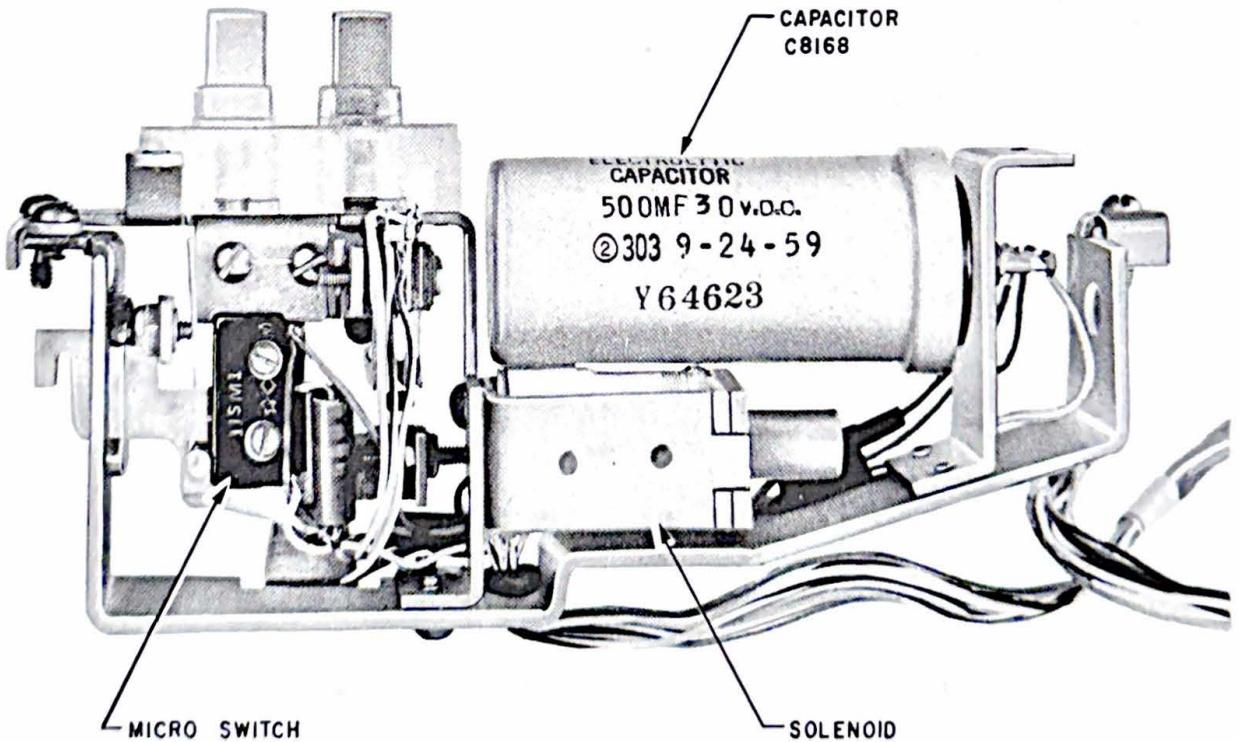

Fig. 13 - 622A Key
7.05 The 622A key (see Fig. 13) is the same basic design as the 621A with these exceptions: a solenoid, Micro Switch, and 500MF capacitor have been added. They provide electro-mechanical boosting to the pivot bar on the release operation.